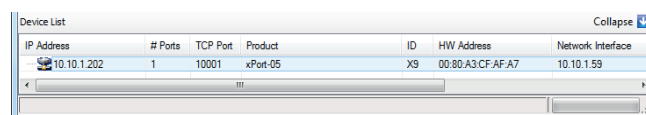

Fig. 82
4. The list of found devices is displayed at the bottom of the "CPR Manager" program, on the "Device List" tab. See Fig. 82.